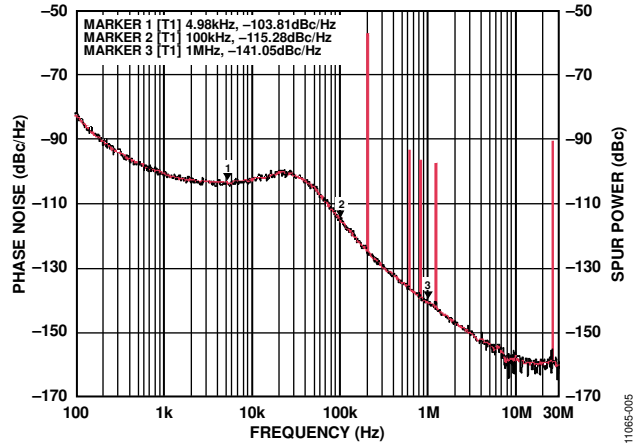

Figure 5. Spectrum Analyzer Display
9. Measure the output spectrum. Figure 5 shows a screenshot of the signal source analyzer operating in phase noise mode, taken at a frequency of 1750.2 MHz.